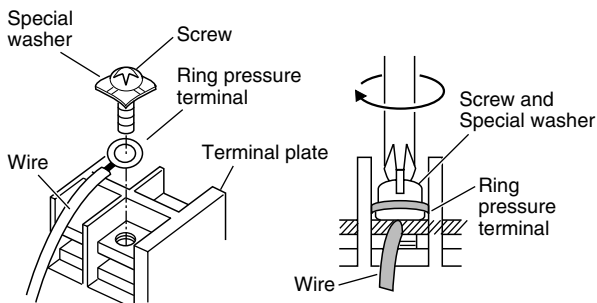

Fig. 5-8
- Put the removed terminal screw through the ring pressure terminal and then replace and tighten the terminal screw using a screwdriver. (Fig. 5-8)